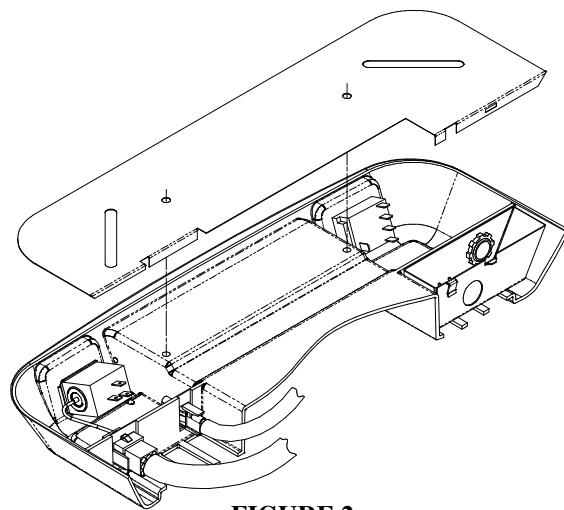

FIGURE 2
5. Remove the temperature control knob then remove the thermostat from the left control box and replace them with the thermostat and temperature control knob provided in the kit. Note that the thermostat capillary tube must route through a hole and into the filter area. When forming to shape, take care not to kink the capillary tube (See Figure 2).
6. Snap fit the heater wiring assembly into the rectangular opening inside the thermostat control box (See Figure 2).
9. Plug the heater assembly cord into the 2 position heater wire assembly (See Figure 2).
10. Place the metal control box shield over the thermostat, switch and field wiring boxes. Make certain that all wires are pushed into the control boxes or laying in the wireway between the thermostat and switch boxes and will not be pinched by the control box shield. Control box shield is properly installed when the two holes in the shield are aligned with the two screw holes in the ceiling assembly chute (See Figure 2).
11. Raise the ceiling assembly and secure to the mounting frame with four (4) screws.
12. Secure the nylon duct collar to the air conditioner basepan with three (3) screws.